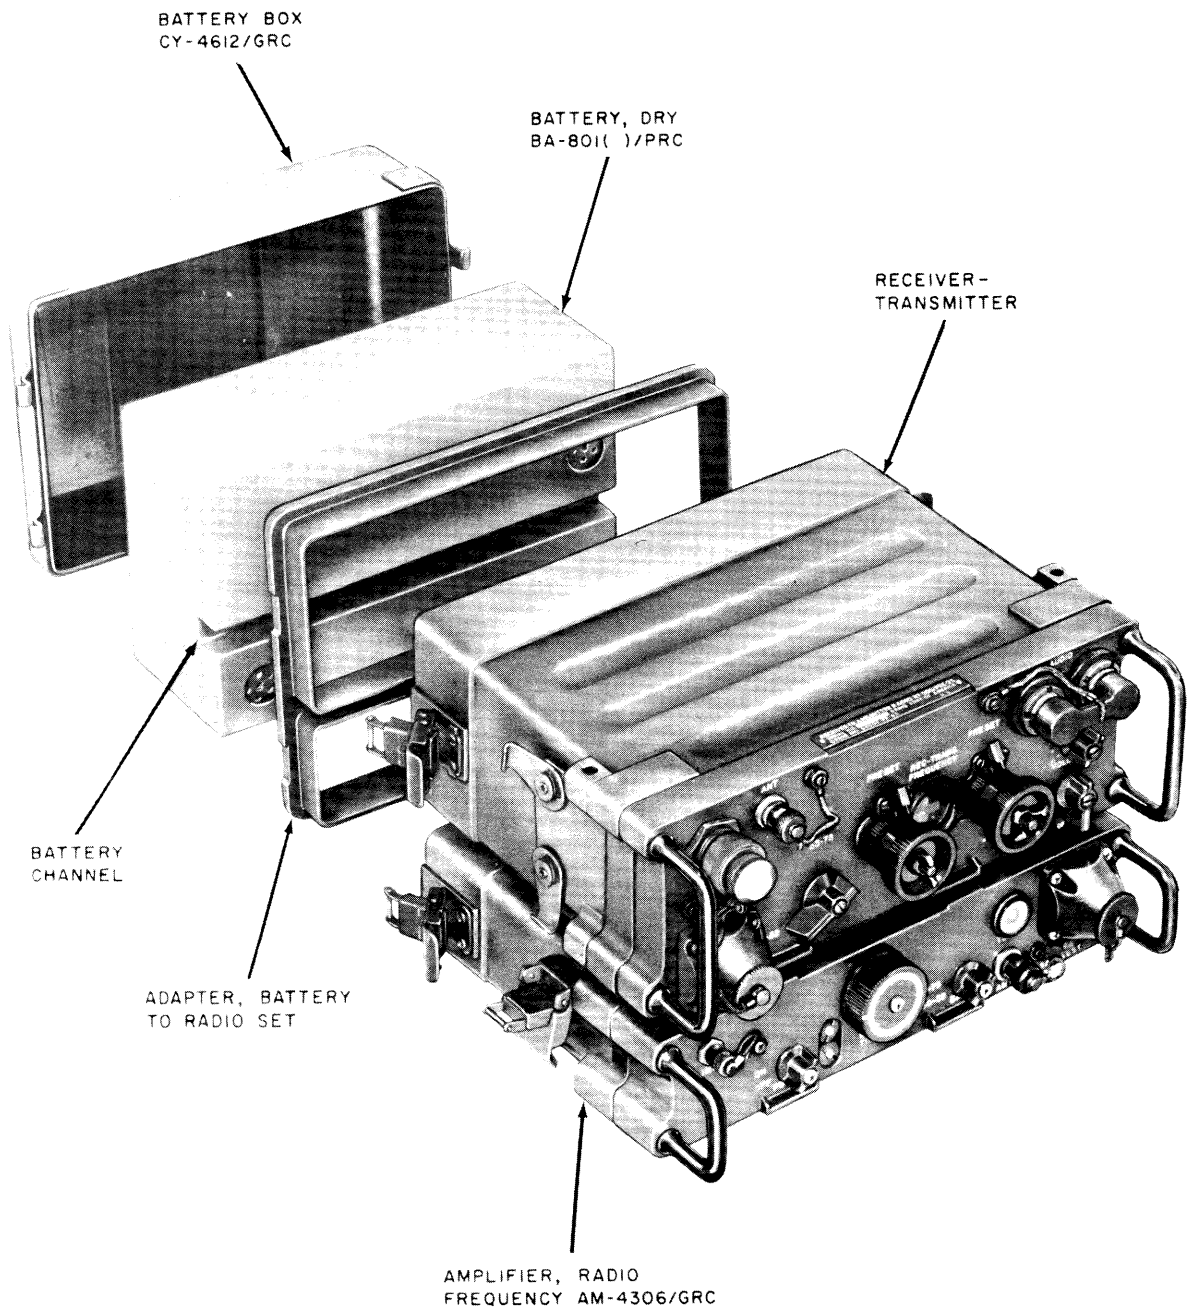

Figure 2-2. Battery, Dry BA-801()/PRC installation.
b. Install the Battery, Dry BA-801()/PRC and the Battery Box, CY-4612/GRC as follows: (fig. 2-2)
- (1) Place the receiver-transmitter with the front panel downward resting on the handles and with the battery connector to your left.
- (2) Install the Adapter, Battery to Radio Set with the AM-4306/GRC section towards you.
- (3) Position the receiver-transmitter battery connector on the BA-801()/PRC in the center of the hole in the battery carton.
- (4) Lift the battery up and grasp it underneath with one hand; turn it over and lower gently in position on the receiver-transmitter battery connector.
- (5) To be certain the battery is installed properly, gently try to lift up the battery and note a slight resistance to this movement; also, if the battery is in place properly, the adapter will obscure the battery channel (fig. 2-2).
- (6) Position the battery box over the battery and secure the two latches on the sides of the receiver-transmitter to it.
- (7) Turn the receiver-transmitter, now attached to the battery box, over and position it resting on the battery box with the AM-4306/GRC section towards you. Unlatch the two receiver-transmitter clamps.
- (8) Position the AM-4306/GRC connector on the battery in the center of the hole in the battery carton.
- (9) Lift the AM-4306/GRC with two hands, placing the index fingers along the sides holding the latches up and gently lower it onto the battery. At the same time, mate the pins of the AM-4306/GRC case with the corresponding holes in the receiver-transmitter case.